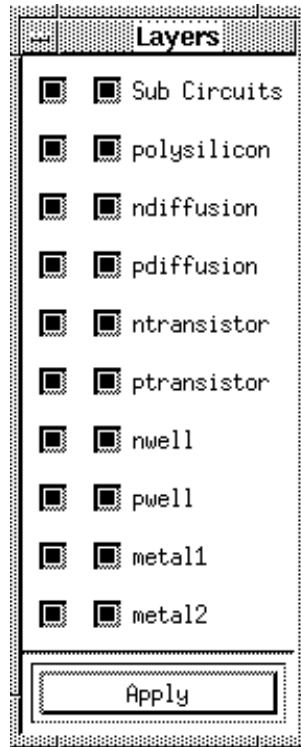

Figure 9.11: Layers Window
**Layers...** This option pops up a window displaying the layers of the current circuit. The user can select which layers are to be displayed by pushing the button associated with each layer. The color for each layer is also displayed next to the selection button for reference. This window does not disappear when changes are applied, but remains visible for turning layers on and off quickly. The window for the **Layers** menu item is shown in Figure 9.11.